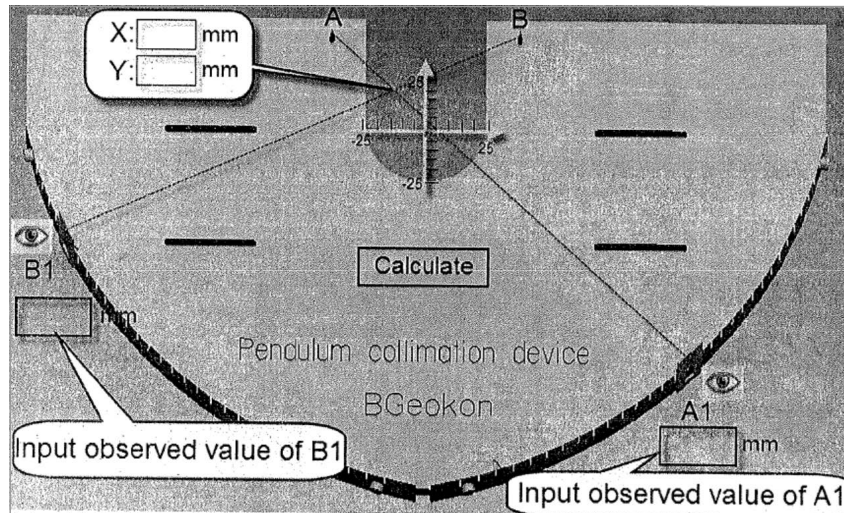

FIGURE 6: Showing the Collimation Process
2. Referring to Figure 6, move the right sliding sight (A1) so that when looking through the hole in the sight, the pendulum wire lines up with the left front sight (A). Read and record the reading on the steel rule to the nearest millimeter.
3. Move the left sliding sight (B1) so that when looking through the hole in the sight, the pendulum wire lines up with the right front sight (B). Read and record the reading on the steel rule to the nearest millimeter.